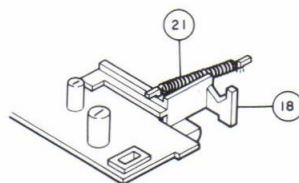

Fig. 9
1. Remove Spring A (21). (Figure 9)